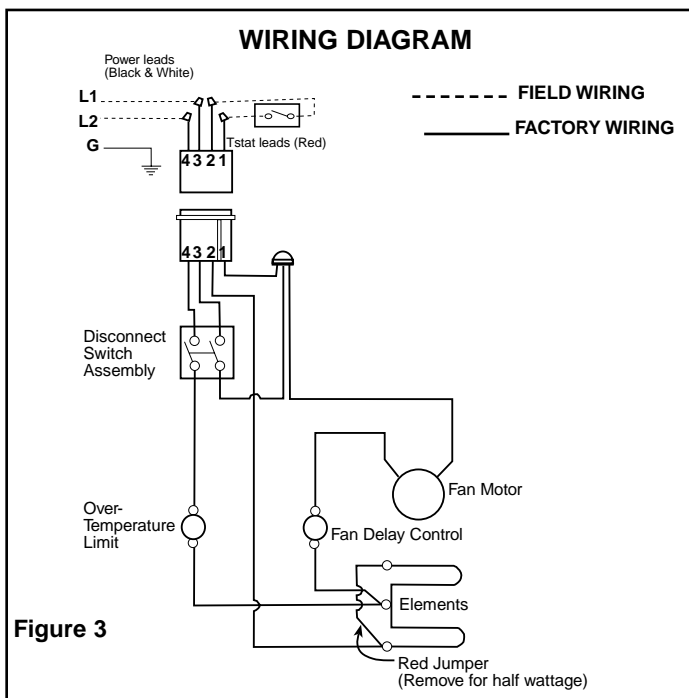

Figure 3
HEATER MUST BE WIRED AS SHOWN IN WIRING DIAGRAM. SEE FIG. 3. WIRING IN ANY OTHER MANNER MAY PREVENT HEATER FROM OPERATING PROPERLY AND COULD LEAD TO PREMATURE FAILURE OR A FIRE.
1. Following wiring diagram (Figure 3) connect supply wiring and thermostat wiring to heater lead wires in back box.